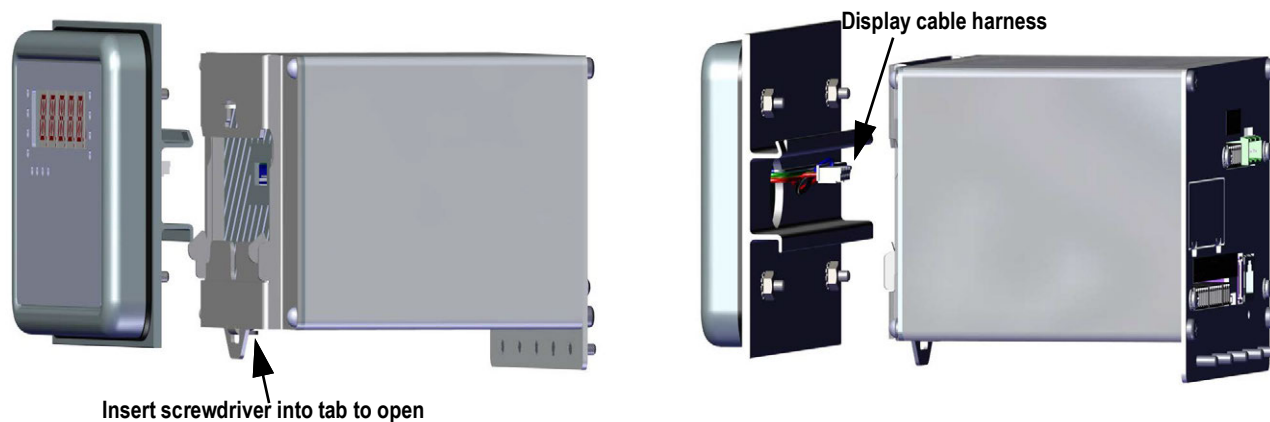

Figure 2-4. Install Controller Assembly
6. Hook the controller assembly to the top DIN rail assembly as shown in Figure 2-4.